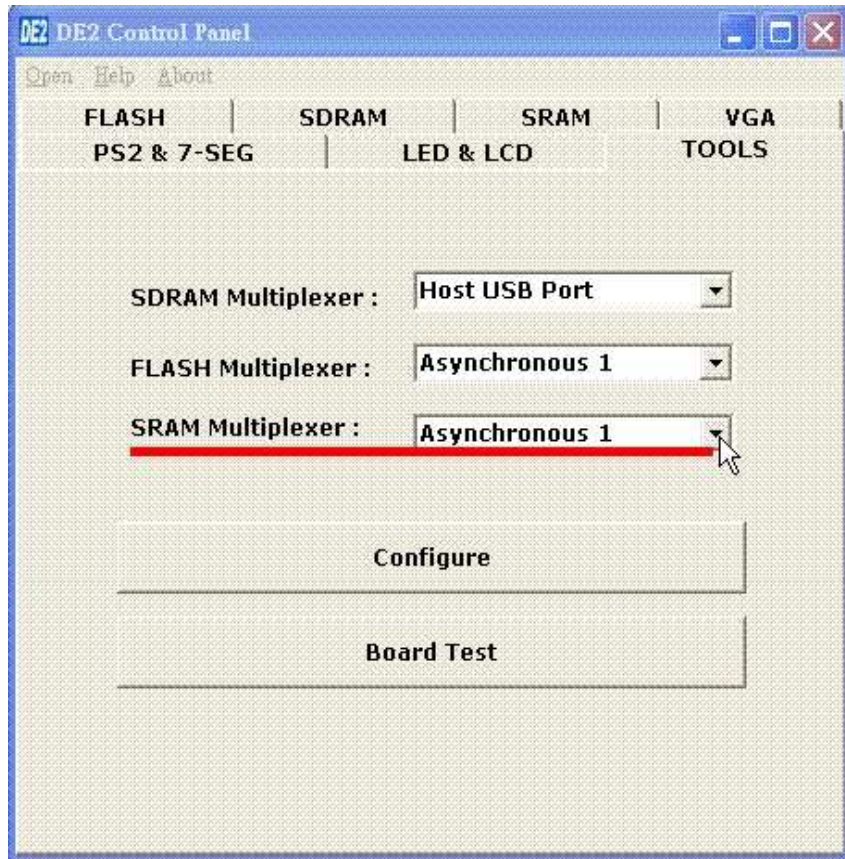

Figure 11.14 Select Asynchronous Port 1 for SRAM so that the image stored in SRAM can be displayed on a VGA monitor
- ✓ Switch to TOOL Page and select Asynchronous 1 for the SRAM multiplexer port as shown in Figure 11.14. Click on Configure to activate the multiport setup.